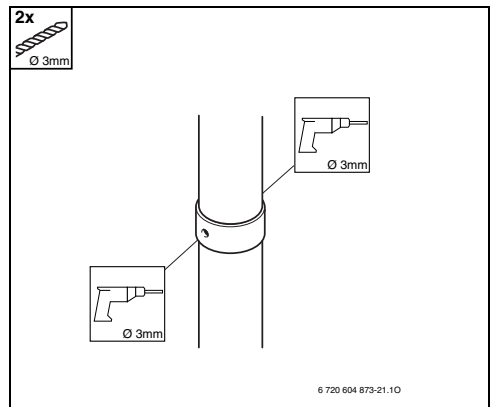

Fig. 37
►Drill two 3-mm diameter holes in the combustion air pipe. Maximum drilling depth 8 mm. It is essential that flue pipe is not damaged! (Fig. 37).